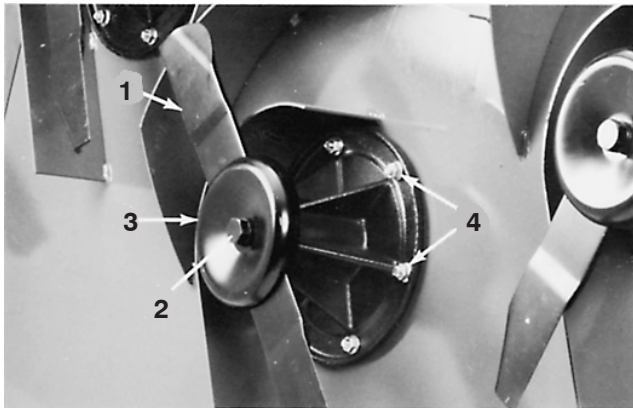

Figure 64
2. Using a rag or thickly padded glove, grasp end of blade. Remove blade bolt, lockwasher, anti-scalp cup and blade from spindle assembly (Fig. 64).